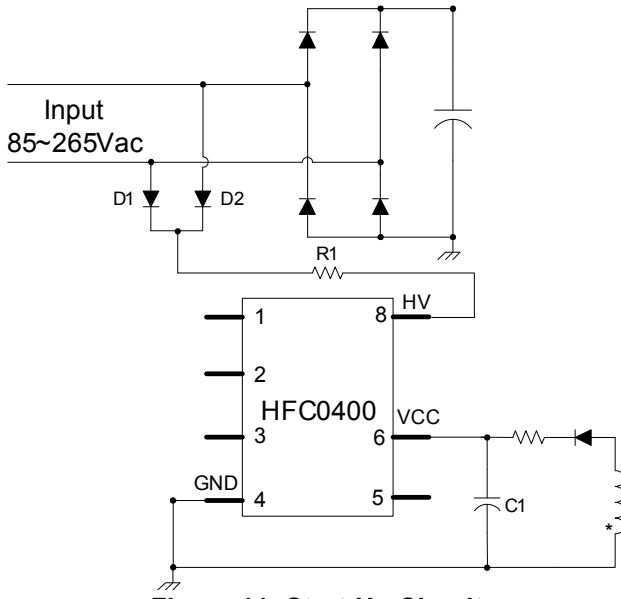

Figure 11: Start-Up Circuit
Figure 11 shows the start-up circuit. The values of R1 and C1 determine the system start-up delay time: a larger R1 or C1 increases the start-up delay. The V_{CC} duration (from V_{CC,OFF} to V_{CC,SS}) for brown-out detection should exceed half the input period, equation (4) provides an estimated value for the V_{CC} capacitor, where I_{CC(noswitch)} is the internal consumption (close to I_{CC(latch)}), and τ_{input} is period of the AC input. For most applications, chose a V_{CC} capacitor value that exceeds 10μF.